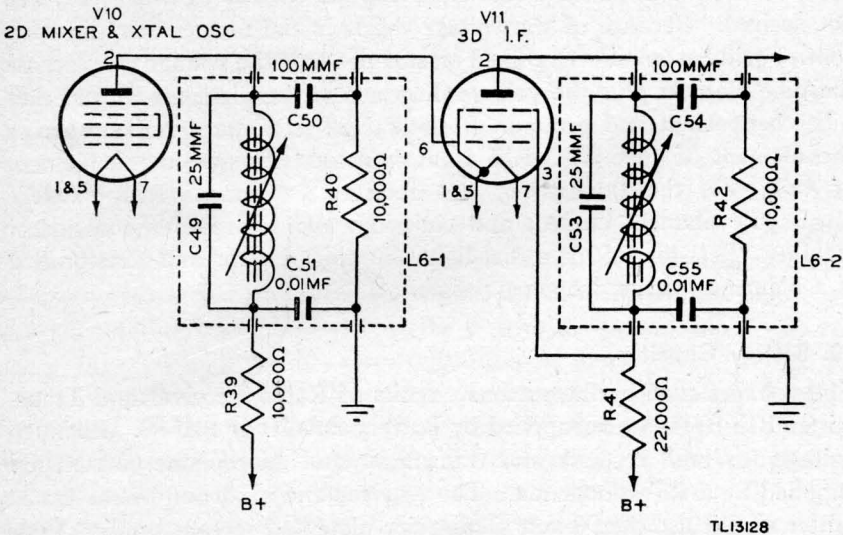

Figure 60. Third i-f amplifier, before circuit change.
(2) The grid-return resistor R40 of the third i-f amplifier tube V11 is connected to the positive filament leg, terminal No. 7, of the second mixer and oscillator tube V10. In this manner the grid bias of the third i-f amplifier tube V11 is reduced from a minimum of  $1\frac{1}{2}$  volts, which increases the amplification of the stage. Figure 60 shows the circuit of the third i-f amplifier before the change was made. The above changes also apply to Order No. 29316-Phila-44-01.